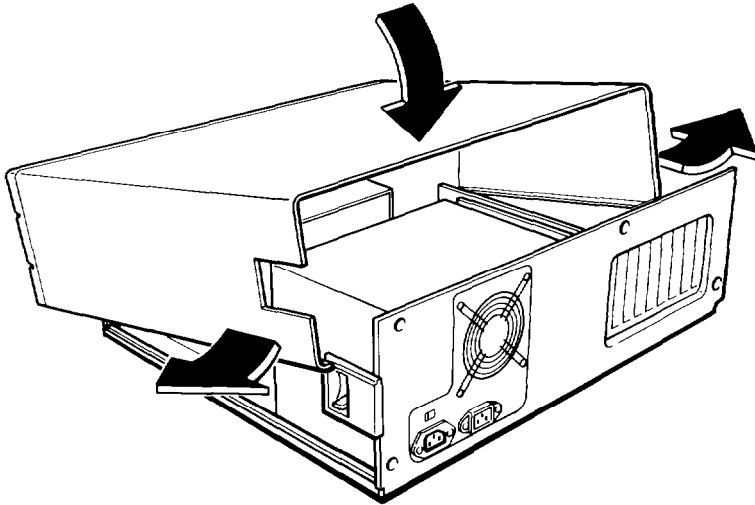

Figure 4-8. Replacing the cover
1. With the front of the computer facing you, position the cover on the computer as shown in Figure 4-8.